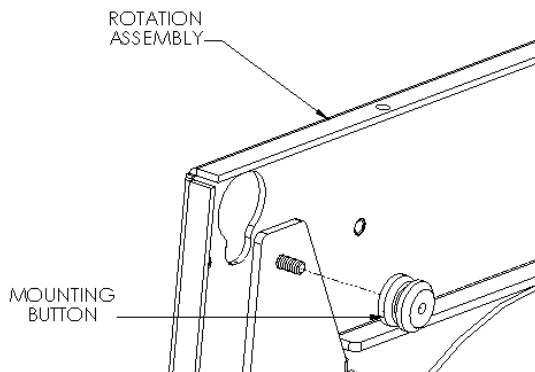
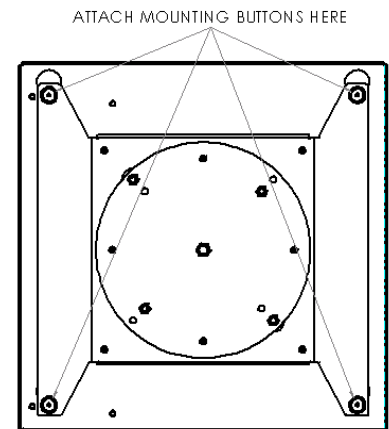

Figure 2
Figure 3
2. Attach mounting buttons to rotation assembly, making sure the buttons are securely fastened. (see Figure 2 & Figure 3).